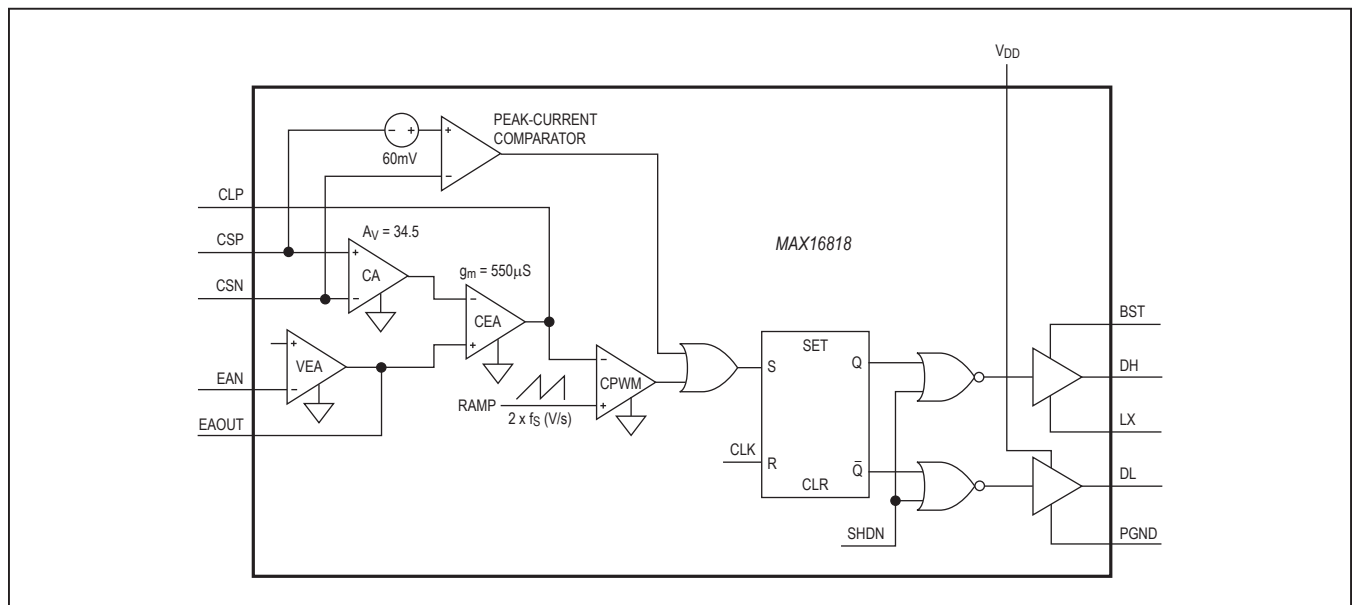

Figure 8. MAX16818 Phase Circuit
The peak-current comparator provides a path for fast cycle-by-cycle current limit during extreme fault conditions, such as an inductor malfunction (Figure 8). Note the average current-limit threshold of 26.9mV still limits the output current during short-circuit conditions. To prevent inductor saturation, select an inductor with a saturation current specification greater than the average current limit. Proper inductor selection ensures that only the extreme conditions trip the peak-current comparator, such as an inductor with a shorted turn. The 60mV threshold for triggering the peak-current limit is twice the full-scale average current-limit voltage threshold. The peak-current comparator has only a 260ns delay.
The PWM comparator (CPWM) sets the duty cycle for each cycle by comparing the output of the current-error amplifier to a $2V_{P-P}$ ramp. At the start of each clock cycle, an R-S flip-flop resets and the high-side driver (DH) goes high. The comparator sets the flip-flop as soon as the ramp voltage exceeds the CLP voltage, thus terminating the on-cycle (Figure 8).